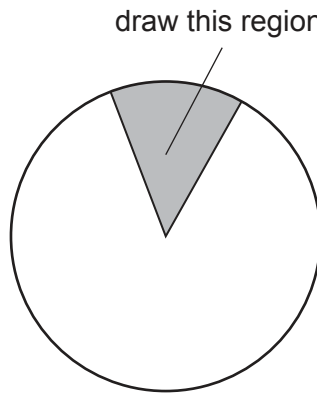

Fig. 2.1
- (a) (i) Draw a large plan diagram of the region of the stem on **K1** indicated by the shaded area in Fig. 2.1.